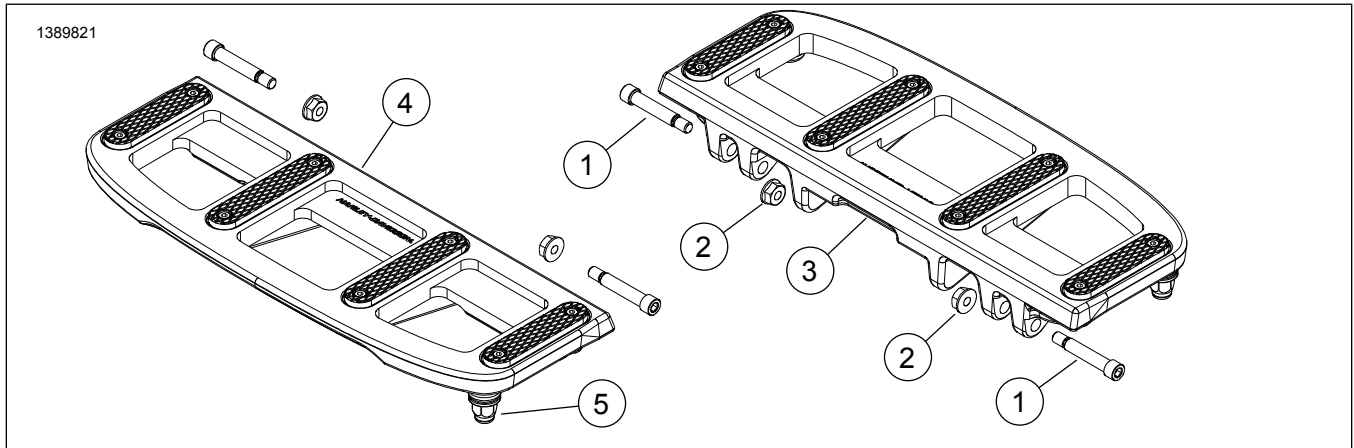

Figure 1. Kit Contents: Rider Footboard Components
1. Figure 1 Set correct footboard in place over mounting brackets. Wear peg should be toward rear of vehicle.
2. Align holes, install pivot screws (1) and locking nuts (2).